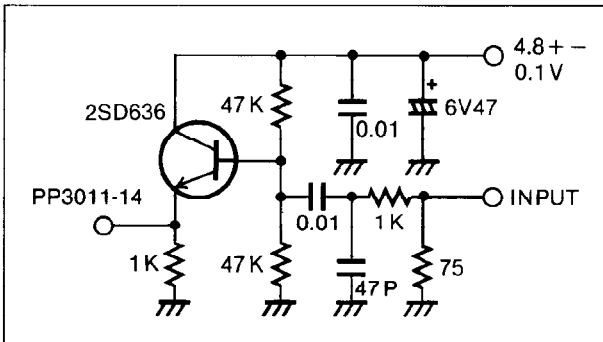

Fig. E7
1. Connect the Service Circuit as shown in Fig.E7.